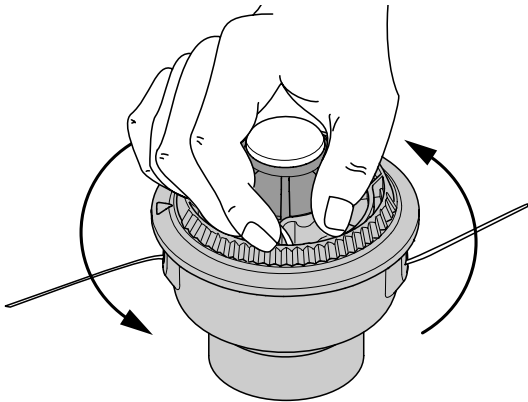

Fig. 18
- Hold the outer spool. Wind the inner reel counterclockwise until approximately four (4) inches (102 mm) of line remain (Fig. 18).